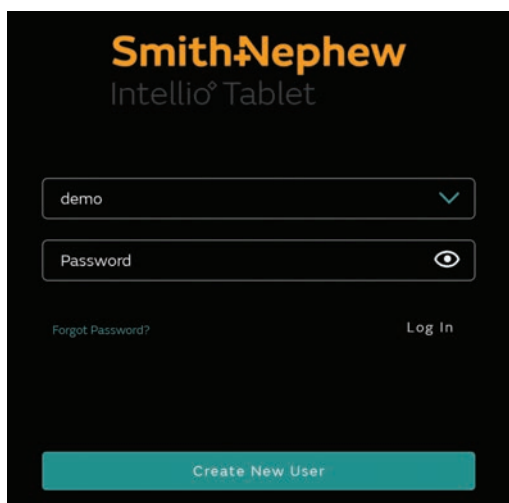

Figure 12. Log in Screen
2. The Login screen, (Figure 12) appears.
3. From the Log in screen (Figure 12) tap on the **Create New User** tab. The Create New User screen displays (Figure 13).
Note: When the Login screen (Figure 12) appears, you have successfully created a New User Setup.